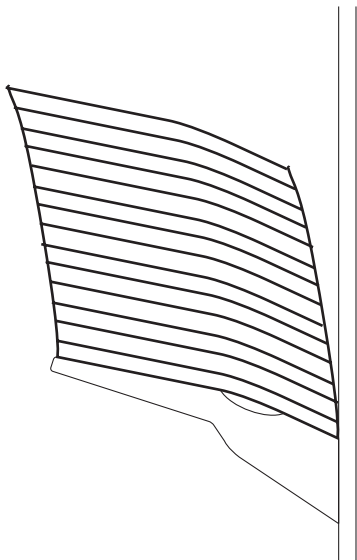

Figure 5-124
- When paper free of curling or paper with downward curling is used after selecting this mode, the high speed of delivery can cause the stacks to fall away from the stacking wall (Figure 5-124). As such, be fully sure when selecting this mode by thoroughly studying the type of paper used by the user.